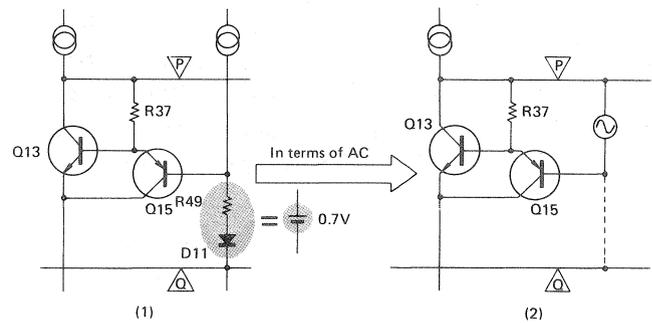

Fig. 22 Function of Q15 emitter-follower
Now let's take a quick look at the NS circuit again. (Figs. 22 and 23).
In Fig. 22 (1), the change of potential between P and Q appears between P and the base of Q15. So, the circuit can be considered an emitter-follower circuit in terms of AC, as shown in Fig. 22 (2). (The role of R49 and D11 is to keep the DC potential between the base of Q15 and point Q at 0.7V.)